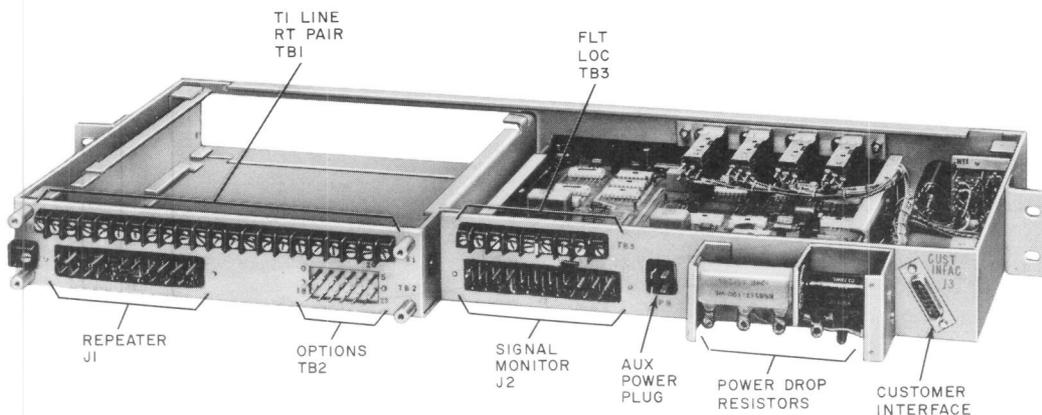

Fig. 2—551A CSU—Rear View With Covers Removed
filter is *not* used. When the 598 fault location filter is used, the S option should be removed and the R option installed. The M option is also provided in manufacture and must be used when the fault location pair is terminated at the 551A CSU. The M option may be used with option S or R and is always used at the terminating end of the circuit. Option N provides for an improved grounding arrangement for line powered CSU applications, but may also be used when the line is station powered. Refer to Fig. 2 and Table A.
4.01 The 551A CSU connection to the T1 lines, order wire, and remote test pair (when provided) is made by screw connection to TB1 (Fig. 2 and 4).